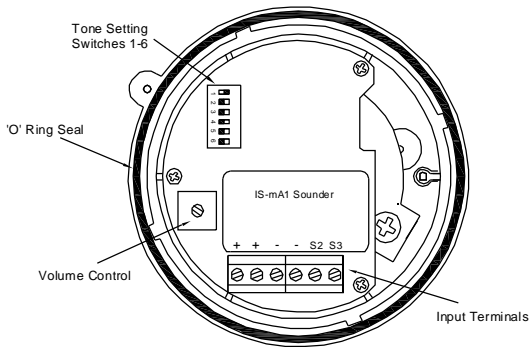

Fig 2 Location of field terminals and controls.
Tone Selection – To select the required first stage tone set the tone switches 1 to 6 (see Fig 2) to the tone setting shown in the table below. The table also shows which 2nd and 3rd stage tones are available for use with the selected first stage tone if more than one tone output stage is required.
- Fit the required number of 20mm cable glands or conduit entries into the base and connect the field wiring to the appropriate sounder terminals as shown in section 6 and fig 2 of this manual. The power supply terminals + and - are duplicated so that sounders may be connected in parallel, or an end of line monitoring resistor may be fitted.
- Select the required output tone by positioning the six switches as shown in Table 1 and Fig 2.
- Check that the 'O' ring seal is correctly located on the sounder section (see Fig. 2) and insert the sounder section into the base. Push it fully home and turn it clockwise to align the mouldings before tightening the security screw.
The output level of the IS-mA1 sounder can be set by adjusting the volume control potentiometer (see Fig 2).